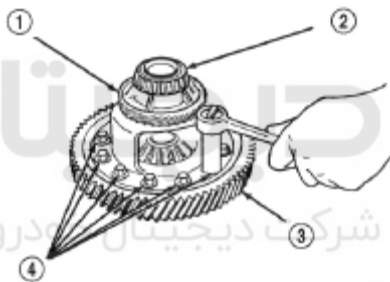

Figure 3-83 Disassembly of ring gear bolt and ring gear
(2) Screw off ring gear and casing bolt (Figure 3-83).